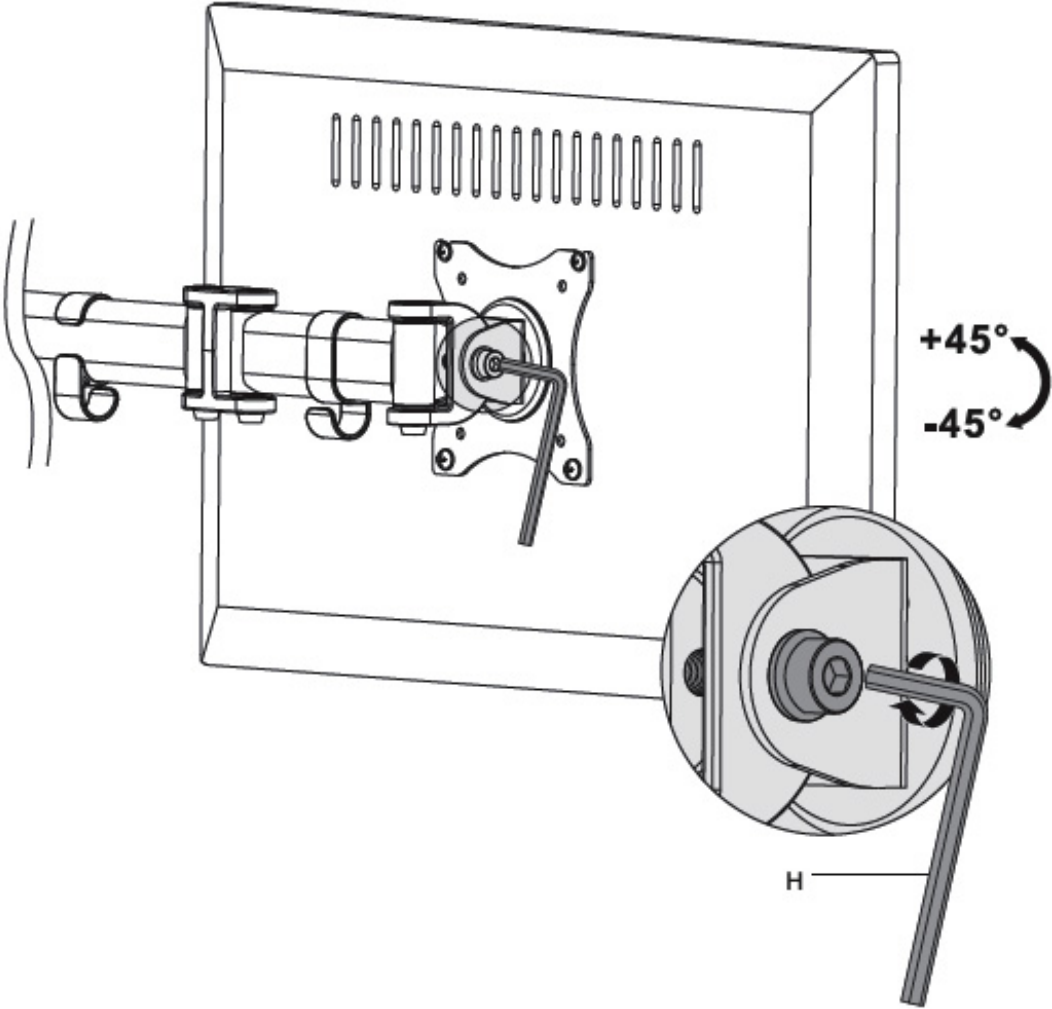

Figure 4
- 1. Use Allen Key (H) to loosen the Tightening Bolt, then tighten the bolt to fix the tilt angle as shown in Figure 4.